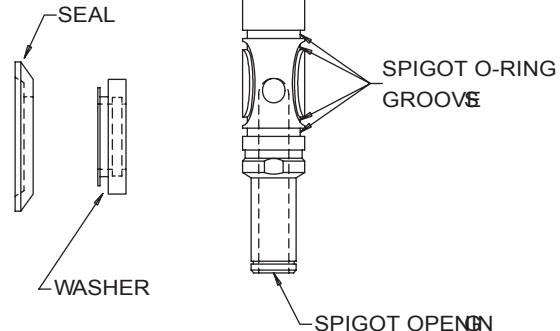

Figure 8-8
- c. the spigot o-ring grooves, nozzles, the shaft cup seals, plastic washers and o-rings as shown in figure 8-8.